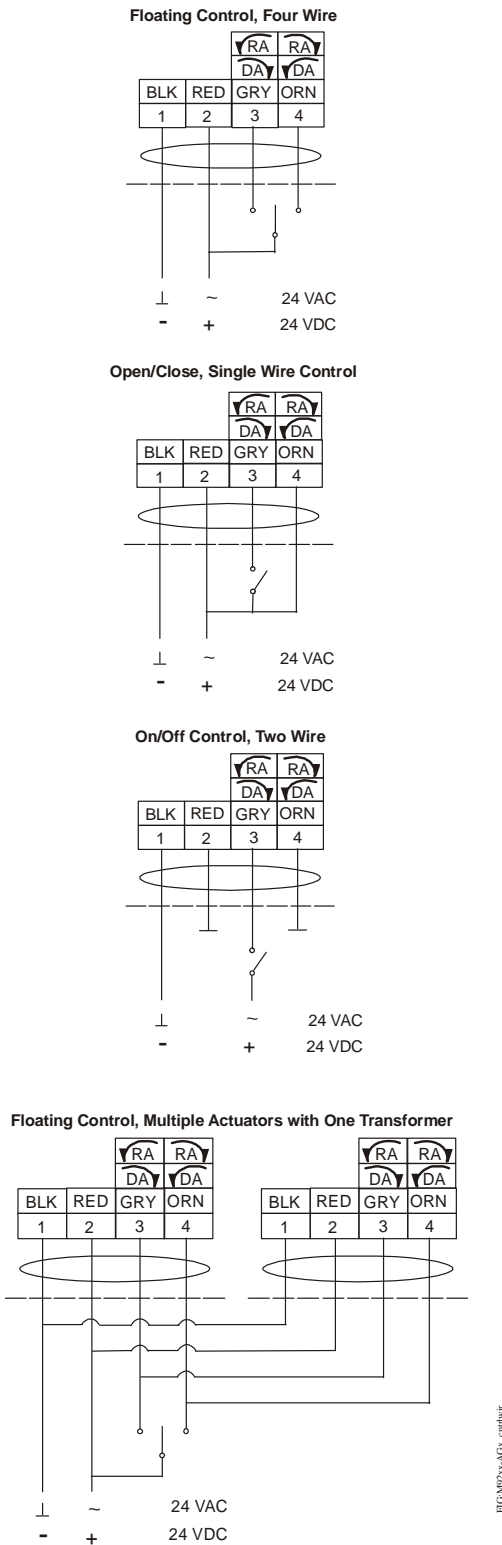
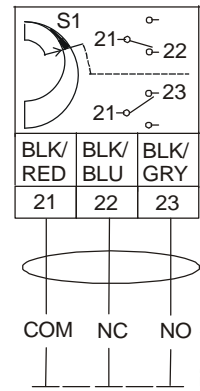

Figure 9: Control Wiring Diagrams
Figure 10: Auxiliary Switch Wiring Diagram
See Figure 9 and Figure 10 to wire the applicable M9203-AGx-2(Z) Series model.